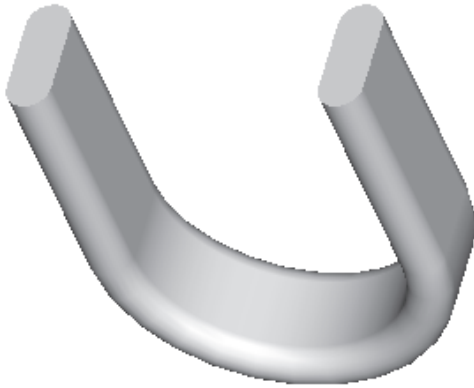

Figure 7-48 The sweep feature
- b. The base feature is a sweep, see Figure 7-48. Select the sketching plane for the base feature, draw the trajectory, apply dimensions and constraints, draw the section of the sweep feature, and then apply dimensions and constraints to the section.
2. Choose the **Saved view list** button from the **View** toolbar. From the drop-down list choose the **Default** option. The model orients on the graphics screen as shown in Figure 7-48. You can use the CTRL+middle mouse button to change the orientation of the model.